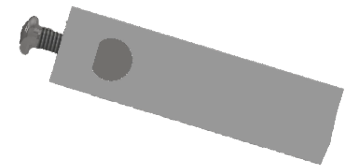

FIG. 6
- Tighten the Set Screw facing the flat on the Shaft (FIG.6)